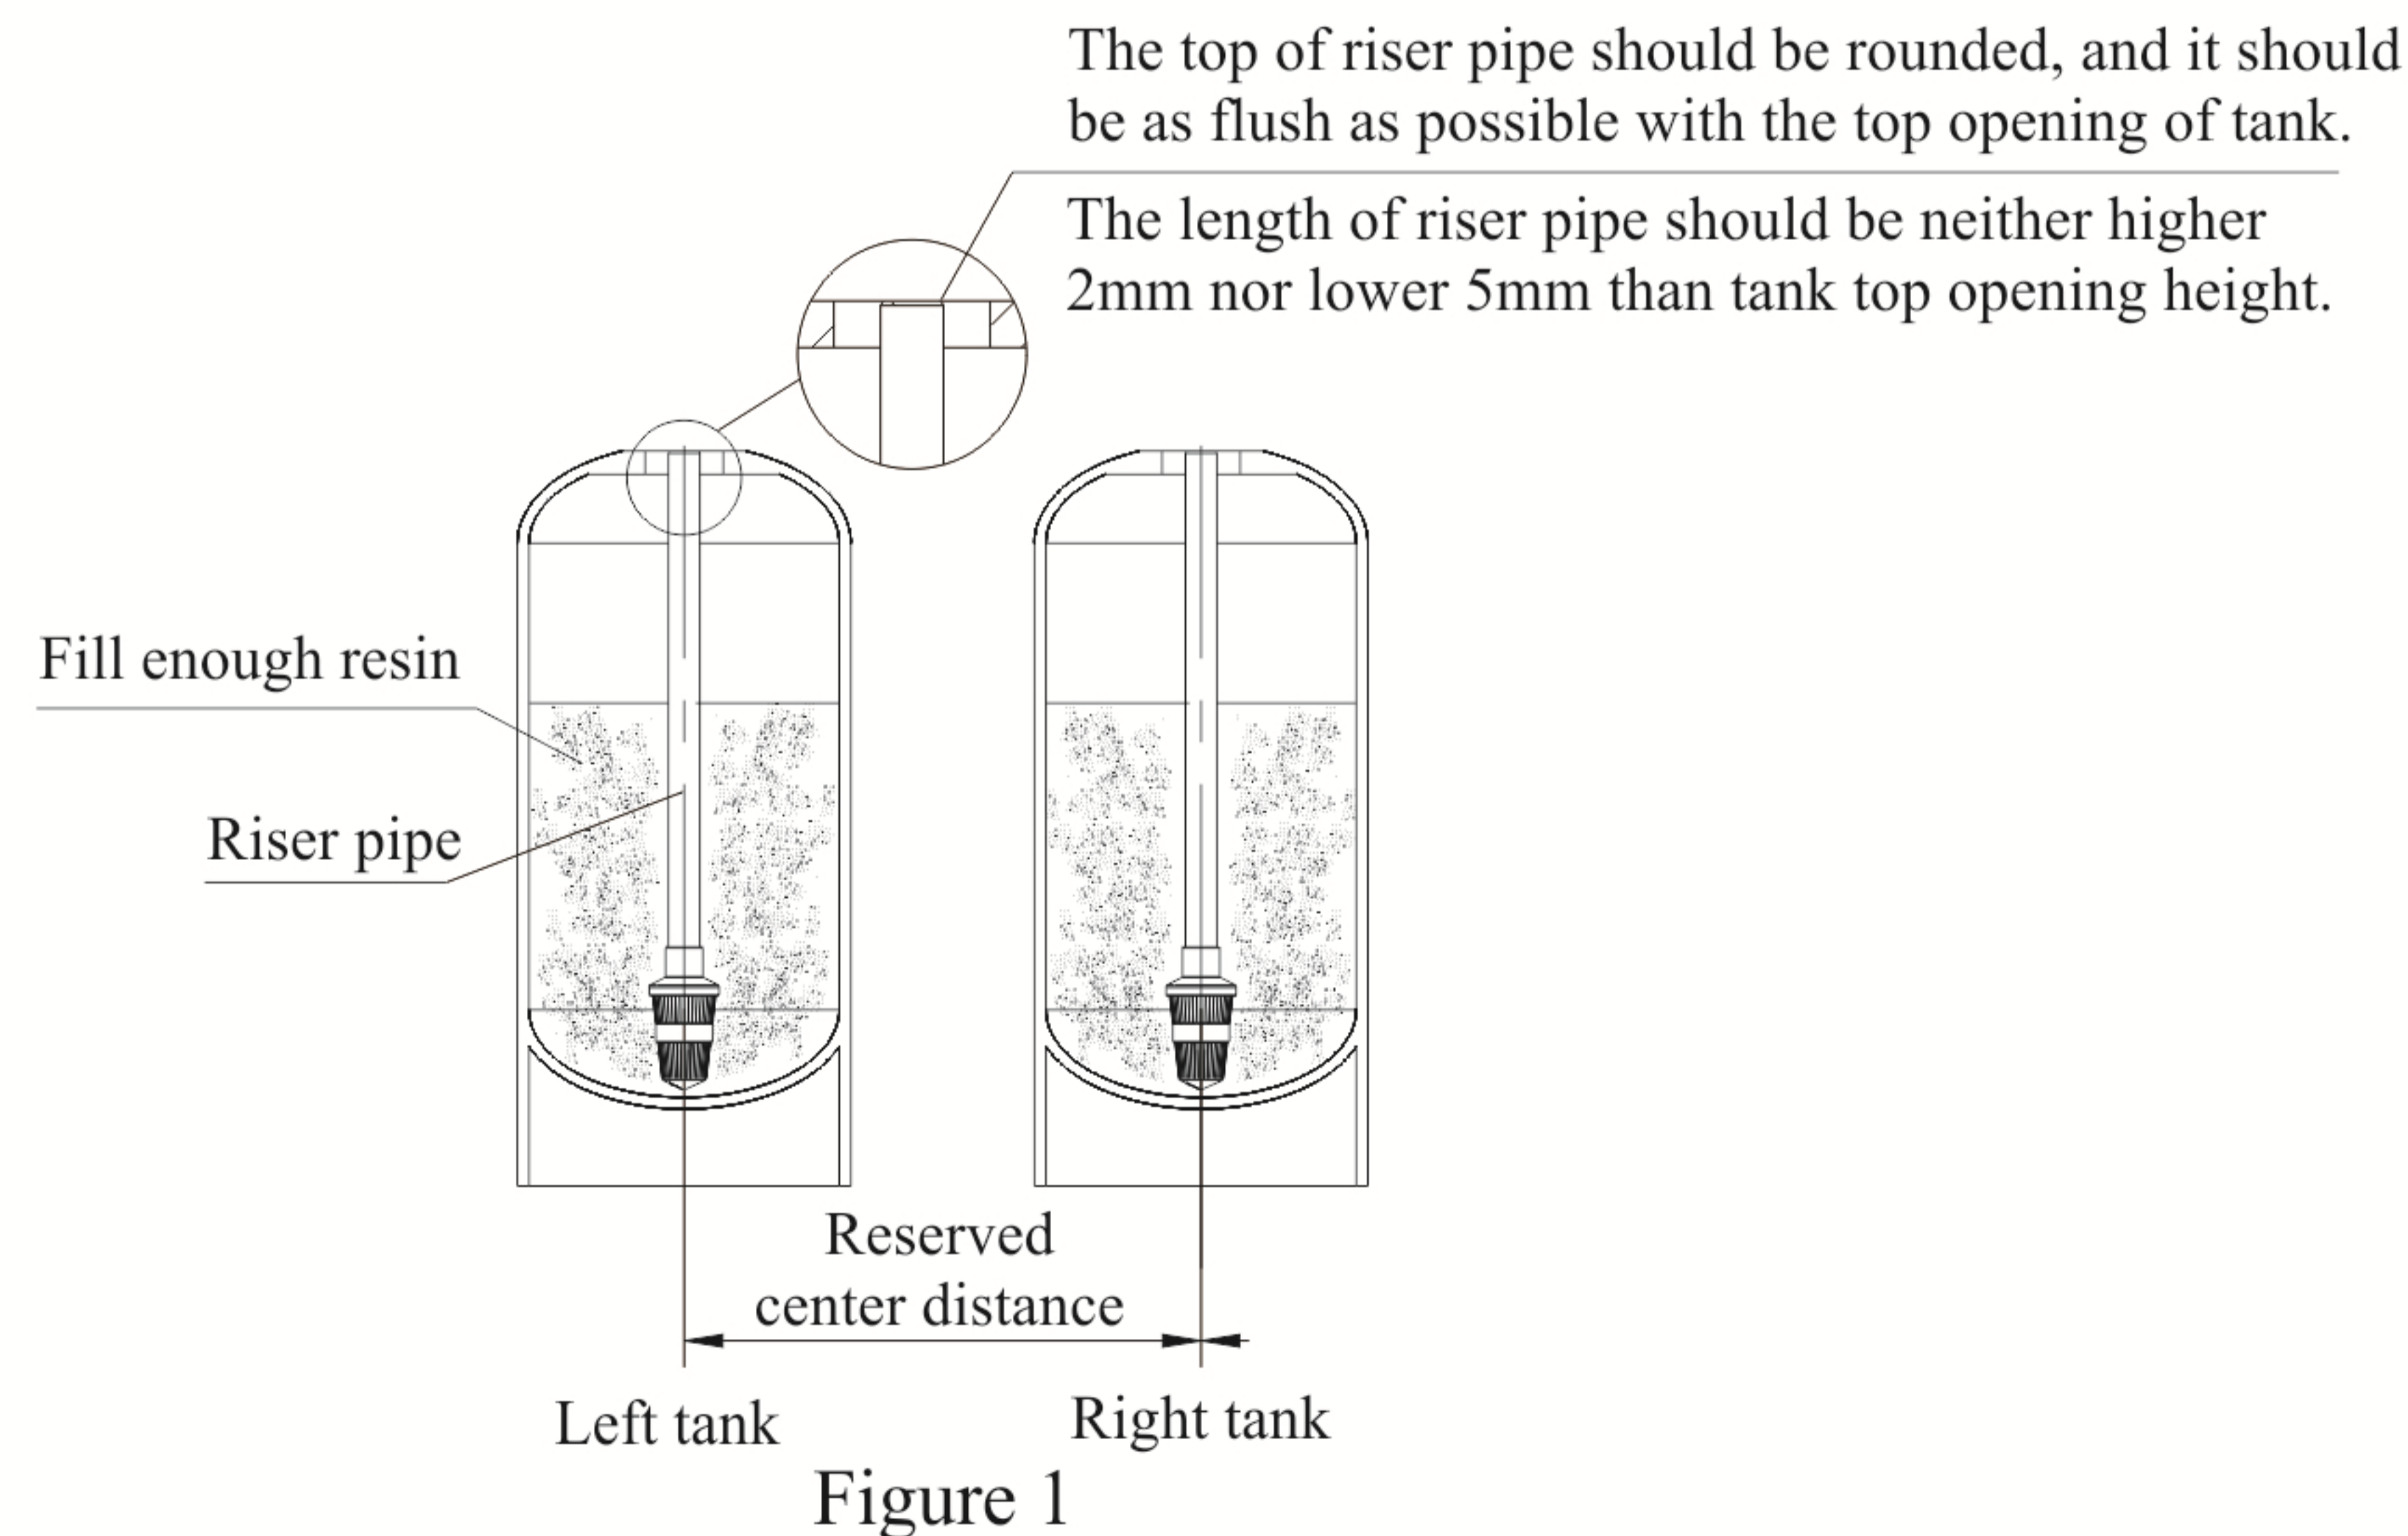

Figure 1
- ① The filter or softener should be located closely to drain.
- ② Ensure the unit is installed in enough space for operating and maintenance.
- ③ For softener, brine tank should be located closely to softener.
- ④ The unit should be kept away from the heater, and not be exposed to outdoor. Sunshine or rain will cause the system damage.
- ⑤ Please avoid installing the system in an acid/alkaline, magnetic or strong vibration circumstance, because above factors will cause the system disorder.
- ⑥ Do not install the device, drain pipeline in circumstance which temperature may drop below 5°C, or above 50°C.
- ⑦ Install the system in the place where with minimum loss in case of water leaking.
① Install control valve
a. As the Figure1 shows, put two resin tanks side by side, the center distance of the resin tank is reserved according to the actual. Select the riser pipe with 32mm OD, glue the riser pipe to the bottom strainer and put it into the resin tank, cut off the exceeding tube out of tank top opening and round it.